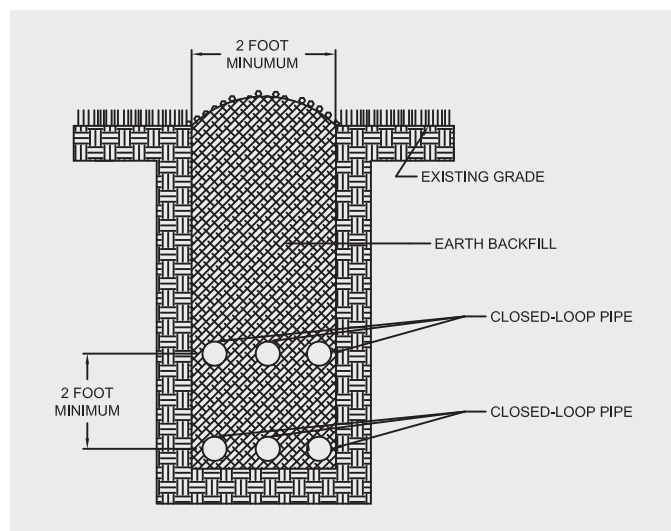

Fig. 81
A six-pipe ground loop uses more pipes in the trench so there is less trench (Figure 81). This design allows the installer to use about 90% of the trench necessary for a typical four-pipe ground loop. For example, 250 feet of trench is necessary for a two-pipe ground loop (500 feet of pipe). 150 feet of trench is necessary for a four-pipe ground loop (600 feet of pipe). A six-pipe ground loop typically has three (3) flow paths of three (3) circuits and only needs approximately 135 feet of trench (810 feet of pipe). Subsequently, one trench could be used for a three (3) ton cooling capacity system. This could limit the amount of excavation necessary, especially for retrofit applications.